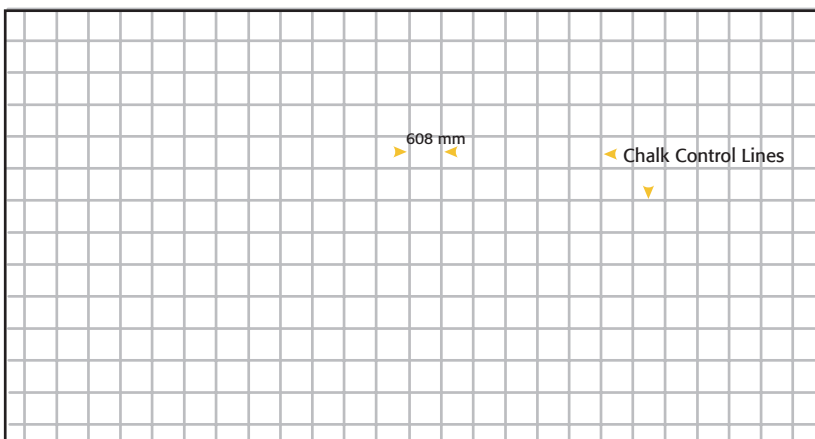

Figure 2
- From the center point of the room, strike chalk lines in 608 mm increments across the room in both directions so that a grid pattern has been created across the entire room **(Fig. 2).**